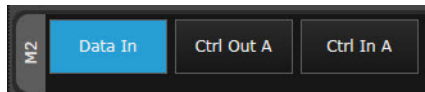

Figure 26 Select M8046A DataIn
- 13 Click on **Data In** corresponding to the M8046A(M2) as shown in Figure 26 on page -54.